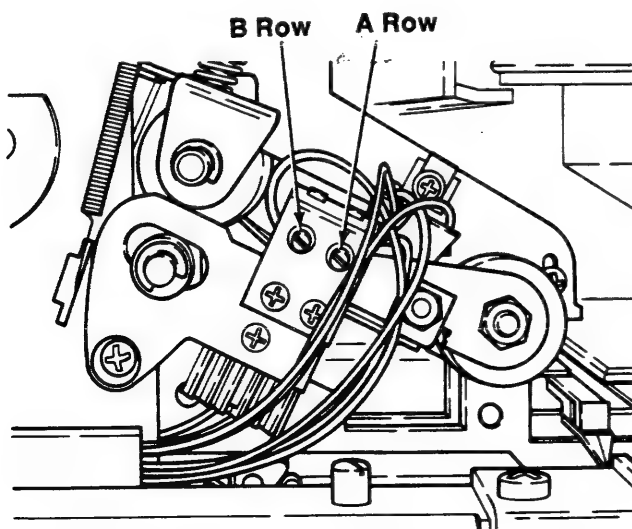

Figure 2-5.3D
8. Turn the A Row Sensor Adjustment Shaft (Figure 2-5.3D) clockwise while observing the scope. Stop turning when the AC portion of the waveform disappears and a dc level is established on the screen (level could be high or low).
10. Repeat Steps 6 through 8 using the B Row Sensor Adjustment Shaft (Figure 2-5.3D).